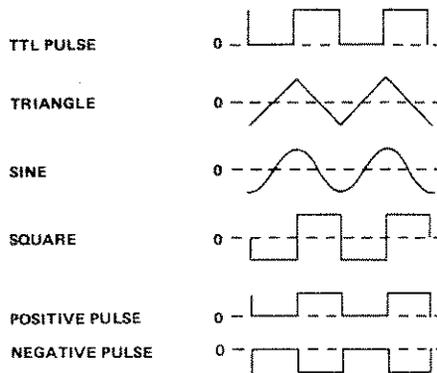

Figure 3-3. Pulse/Waveform Phase Relationship and Waveform Reference Lines
A fixed amplitude (0 to about 5V) TTL pulse of the generator frequency is provided at the PULSE OUT connector. This output can be used as a synchronizing reference for the main output (6). Phase of the waveforms relative to the sync output is shown in figure 3-3.
Offset of waveforms and dc voltage are controlled by the DC OFFSET control. The WAVEFORM switch (10) must be in one of the four right-hand settings. Center of the waveform reference (figure 3-3) is skewed positive with clockwise rotation, negative with counterclockwise rotation. Offset and dc voltage maximums are ±5V (50Ω terminated).